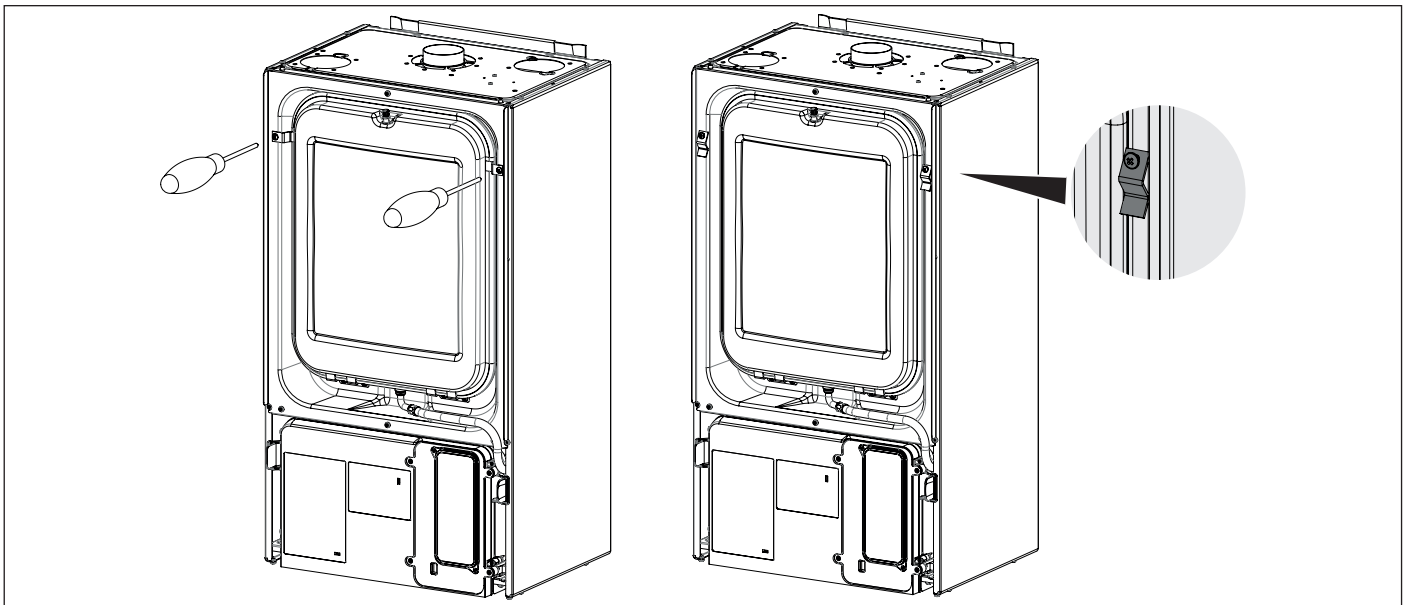
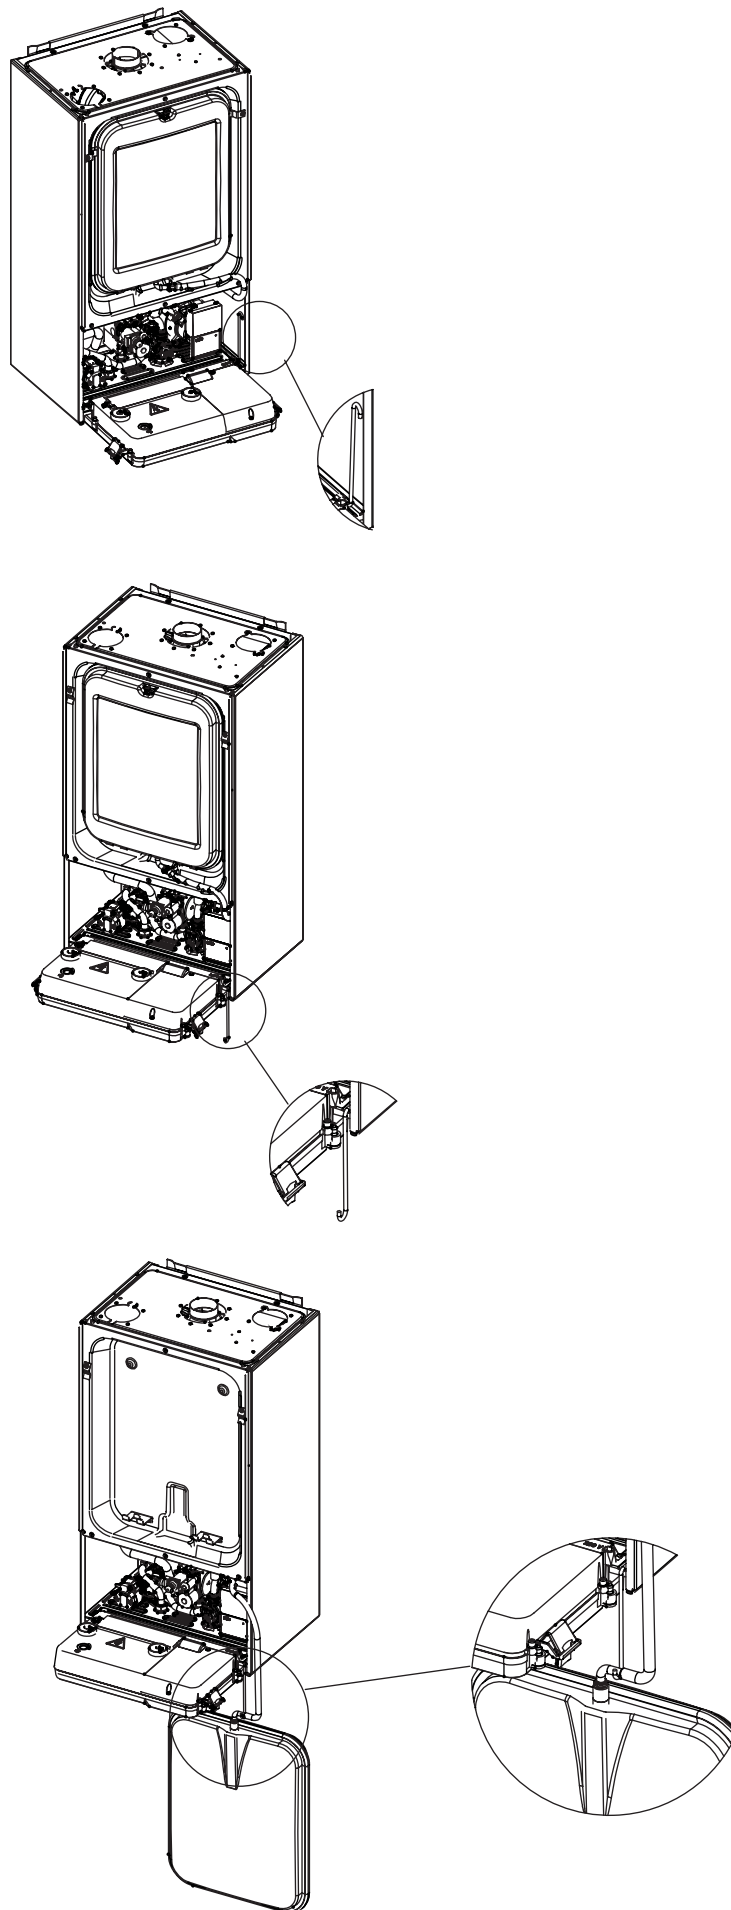

Fig. 21 Expansion vessel mounting bracket removal
Fig. 22 Expansion vessel bracket
- Remove the front panel of the combustion chamber, and remove expansion vessel (see Fig. 21 Expansion vessel mounting bracket removal and Fig. 22 Expansion vessel bracket).